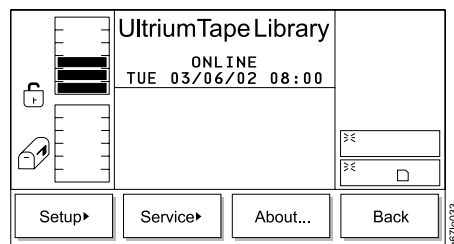

Figure 341. Main Menu (alternate screen)
1. From the Main Menu's initial screen, press the button below the **More** softkey. The Main Menu's alternate screen displays (see Figure 341).